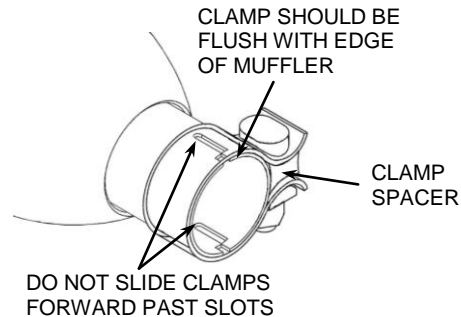

FIGURE 2
7. Check all clearances and alignments then tighten the mounting bolts to factory specifications. Tighten the muffler clamps. (NOTE: The muffler clamps should be flush with the end of the muffler when tightened. See Figure 2. If the muffler clamps are slid forward past the slots on the slip collar the clamps will not tighten the mufflers properly. Also, make sure the clamp spacer is not over the slots. The slots need to be covered by the clamp band so that it seals the slots properly. Rotate the clamp if necessary.)